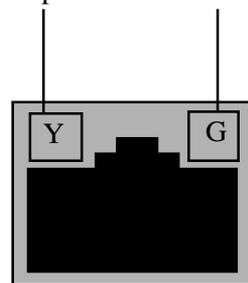

Figure 2-14
Connect a single network cable to the Ethernet adapter (see **Figure 2-14**). The cable will only fit one way. For 100BASE-TX, your network cable must be category 5, twisted-pair wiring. If you plan on running the adapter at 100 Mbps, it must be connected to a 100BASE-TX hub (not a 100BASE-T4 hub). For 10BASE-T, use category 3, 4, or 5 twisted-pair wiring.
- Check the LED lights on the adapter. The onboard cable connector has two diagnostic LEDs. These lights help indicate if there's a problem with the connector, cable, or hub. The table below describes the LEDs, and the drawing on the previous page shows their location (see **Figure 2-14**).